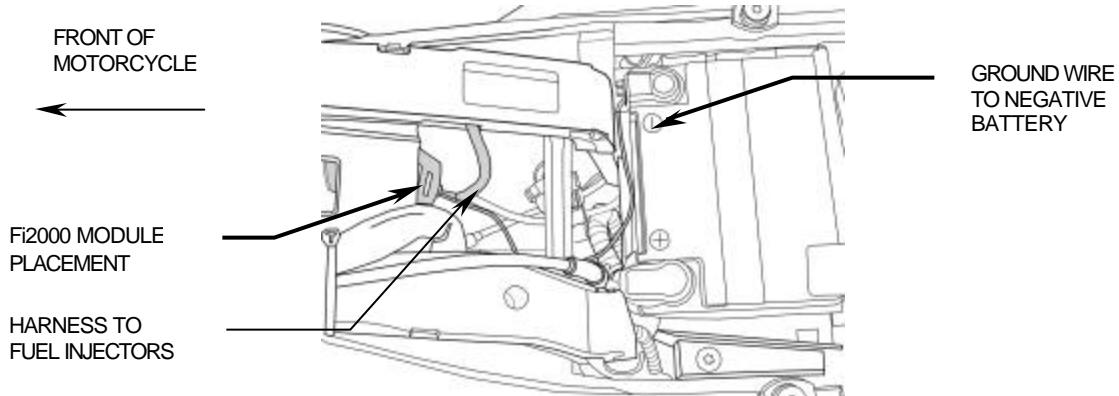

FIGURE 2
3. Lay the Fi2000 module in the open area just behind the fuel tank, Figure 2. By carefully prying the 3 locking tabs, open the right side of the black plastic runner that houses the stock wiring harnesses. Slip the Fi2000 harness into the runner, use the cutout on the left side towards the rear of the runner to feed the harness into it. Route the harness forward about 6 inches and then have it exit at the right side of the runner. Snap the top of the plastic runner back into place.
8. Feed the Fi2000 black wire under the frame cross member and attach it to the **NEGATIVE** post of the battery. Velcro the module onto the flat area of the frame in the open area, in a position where it will sit flat, see Figure 2.
9. Before re-installing the fuel tank, seat and air cleaner assembly, verify your connections. Remove the door from the Fi2000 box to expose the LED's. Verify the wire connections by (1) turning the ignition on, prior to starting, and see if all three LED's are on steady. If you have no light, your ground connection (BLACK wire) has not made proper contact or your front injector connection is not complete. (2) After achieving a steady light from all three LED's, start the motorcycle, wait 15 seconds and let it idle, the green light should now be the only LED on. If all three LED's are still on after start up, verify you have attached the injector connectors correctly. Reattach the door when finished. **Note:** Make sure the ignition is turned off before changing any connection.